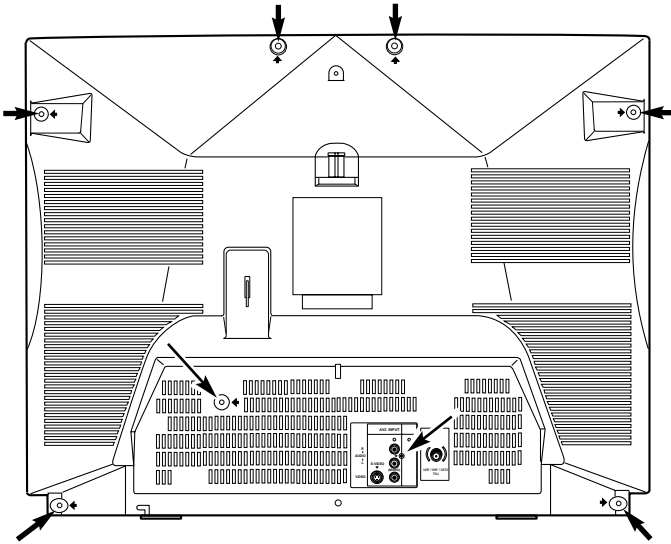

Figure 1. Cabinet Back Removal
1. Refer to Figure 1, remove 8 screws.